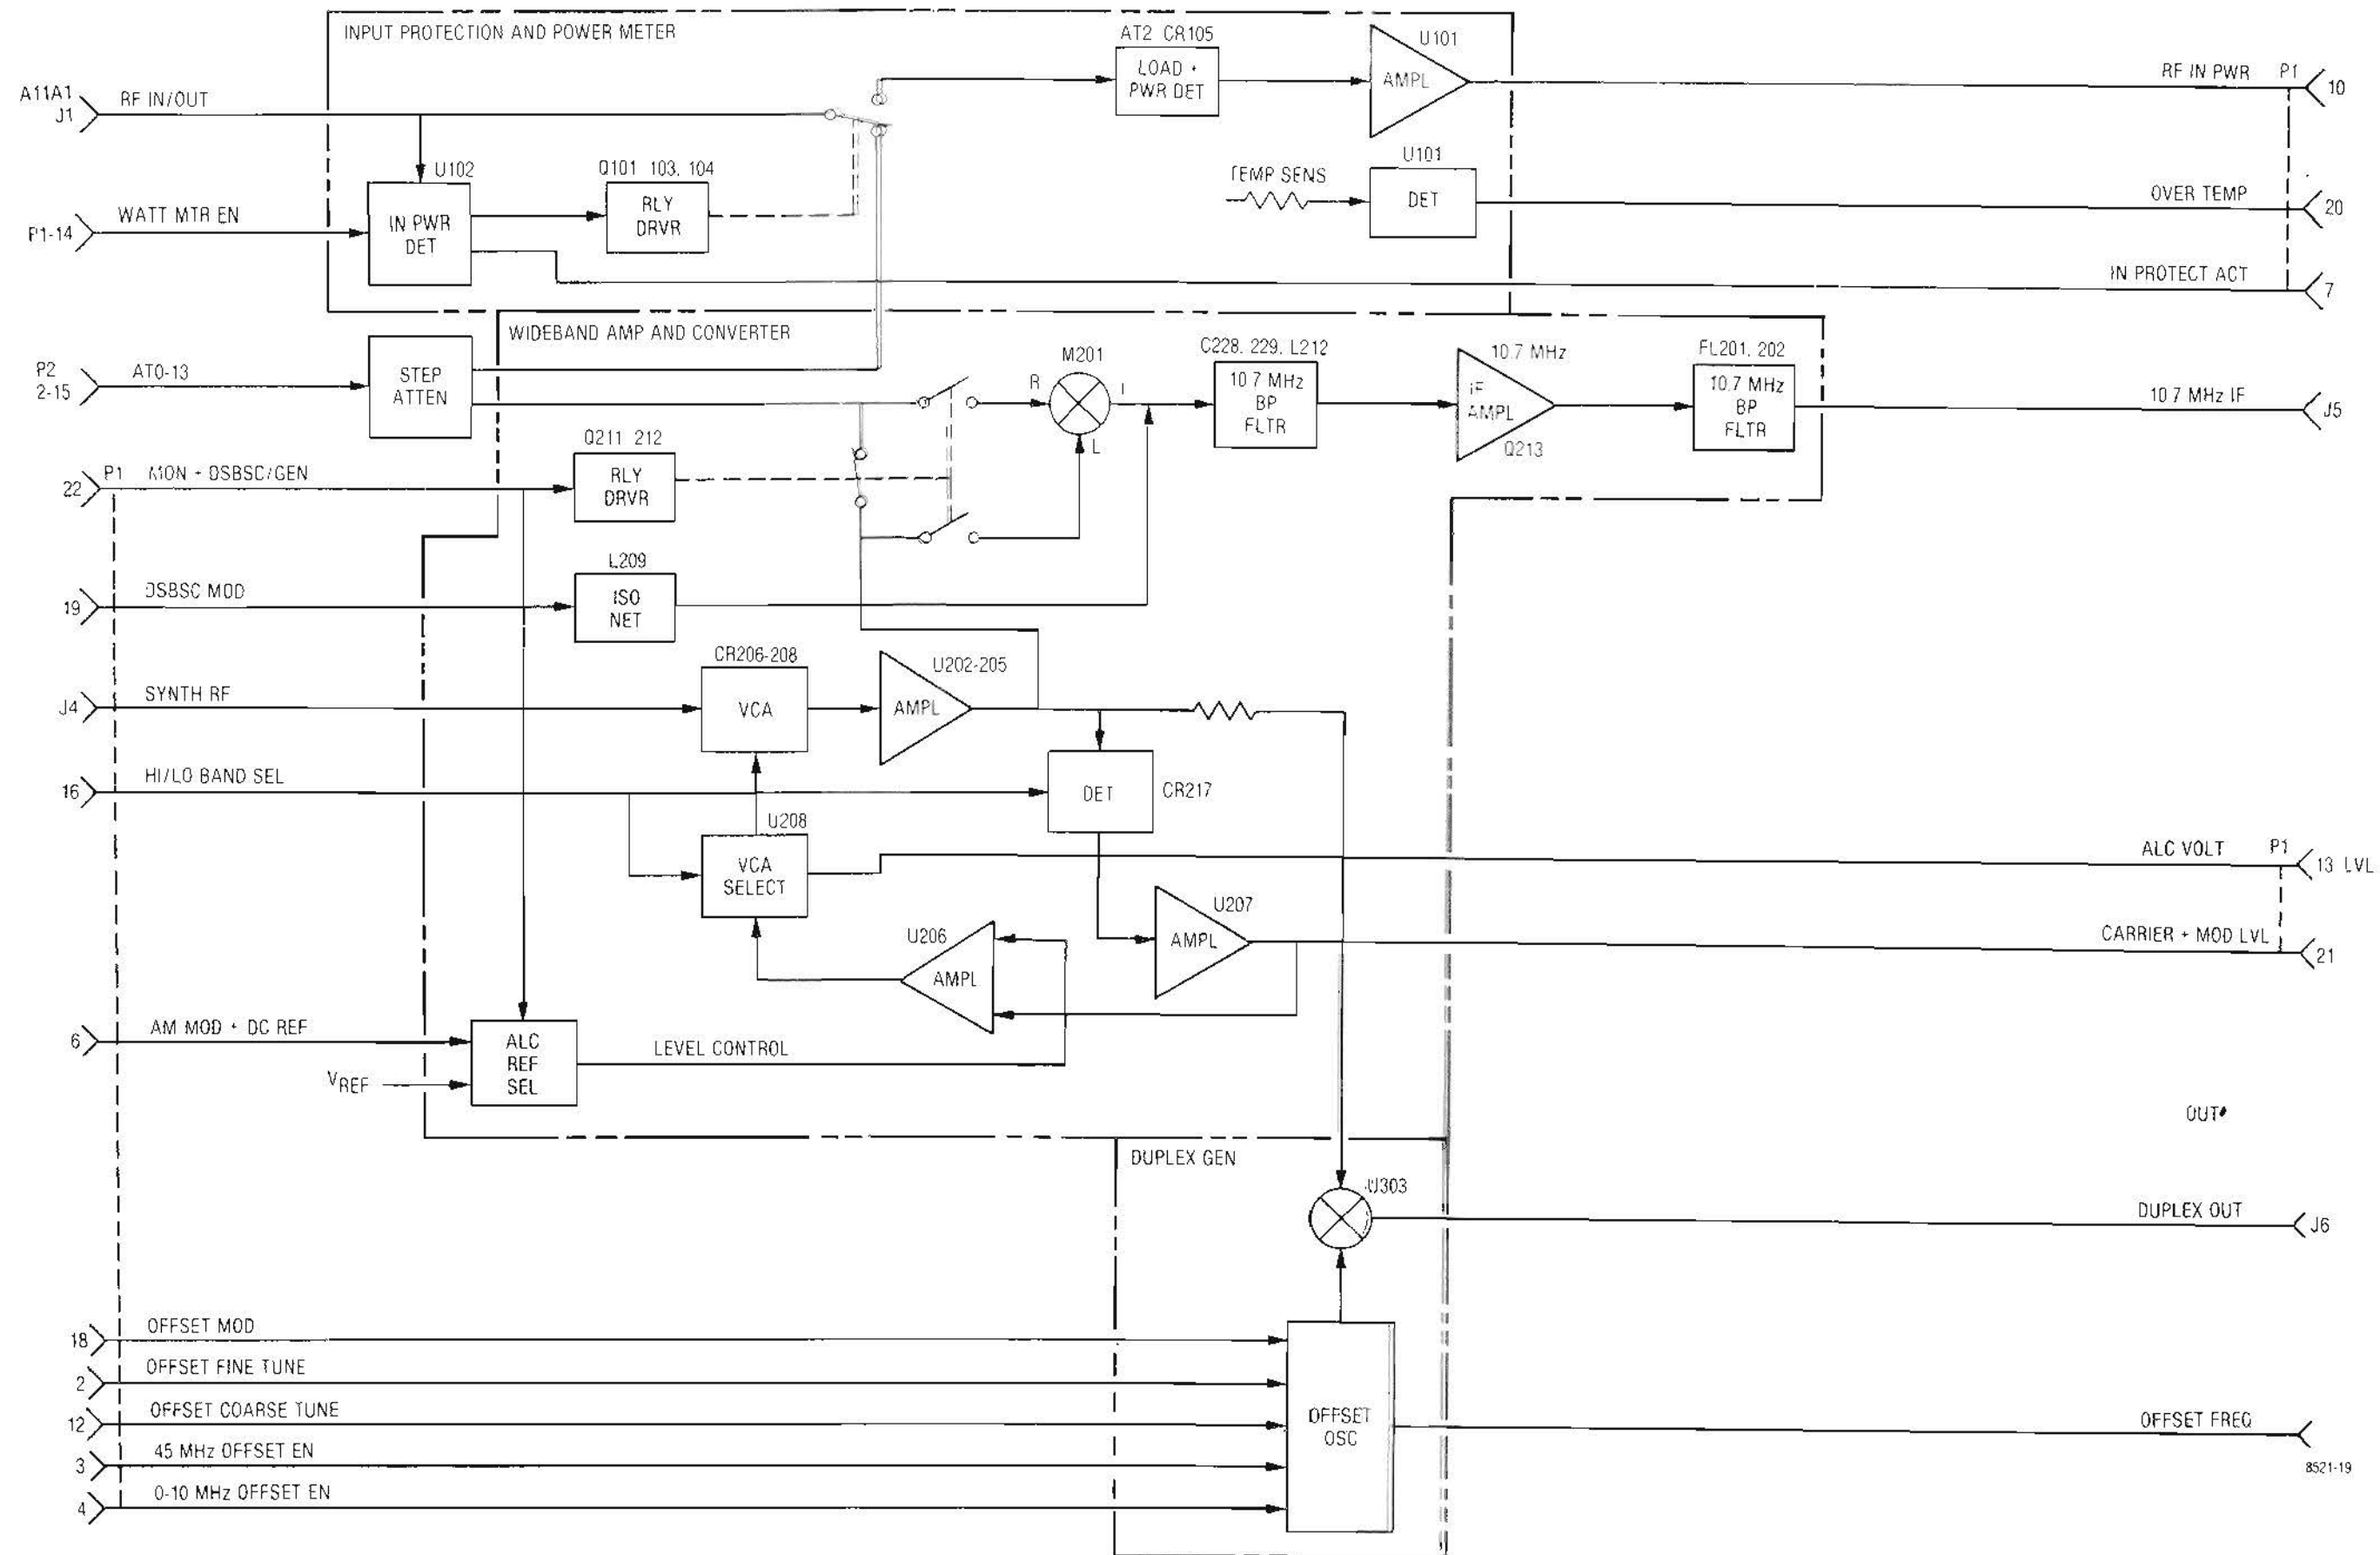

Figure 17-1. RF Input Module A11 Block Diagram
**17-1. General.** The RF Input Module is subdivided into three isolate circuits; input protection and power meter, wideband amplifier and frequency converter and duplex generator. A block diagram of the RF Input Module is shown in figure 17-1 with its schematic shown in figure 17-2.